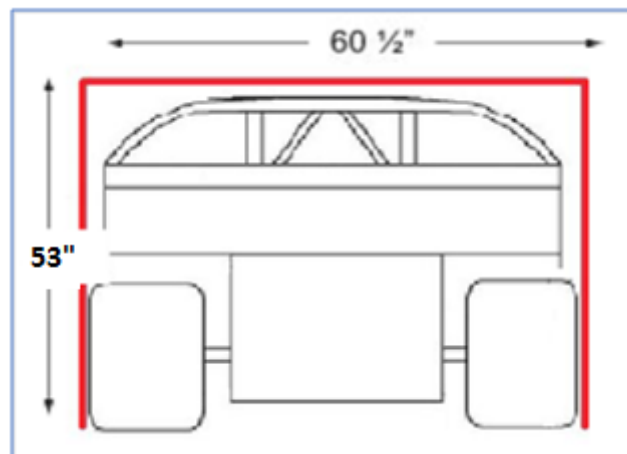

Figure 1
- 6.8** All cars must be able to pass freely (not touch) through a hoop 60.5 inches wide by 53 inches high, in full race trim, weighing 1325 pounds or greater with driver in the car (*Figure 1*).